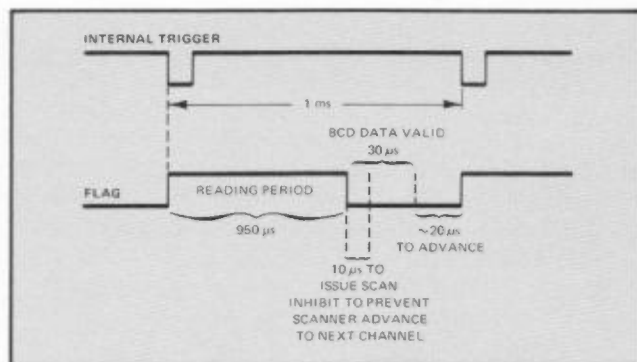

FIGURE 9
Remote control of 3485A using internal triggering and a preselected CHANNEL DELAY on the front panel. The SINGLE SCAN mode is selected along with the LAST CHANNEL (lines not shown). PROGRAM INITIATE starts the scan sequence. READY indicates completion of the sequence. This scan sequence may be repeated without reprogramming by issuing PROGRAM INITIATE. SCAN INHIBIT is necessary to keep Scanner from automatically advancing while system is taking data in. Refer to Figure 9 for detail on the timing for SCAN INHIBIT.
- Special case: In the SINGLE SCAN or CONTINUOUS SCAN modes and if CHANNEL DELAY is put in the "NONE" position, SCAN INHIBIT may be used for the desired channel spacing. When SCAN INHIBIT is released (ungrounded), the Scanner will immediately advance to the next channel and take a reading in 950 μs. This does not allow any dwell time for the input signal to settle, however. In this mode, SCAN INHIBIT must be issued within 10 μs after the FLAG goes low as shown in Figure 9. The BCD reading is valid for 30 μs.